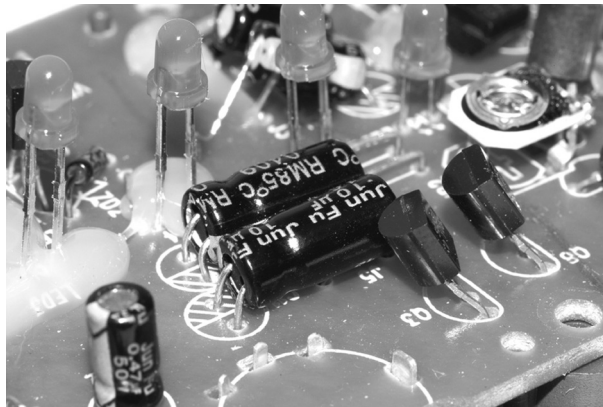

Fig. 8
- (ii) Fig. 8 shows two radial capacitors on the circuit board, bent to a horizontal position.